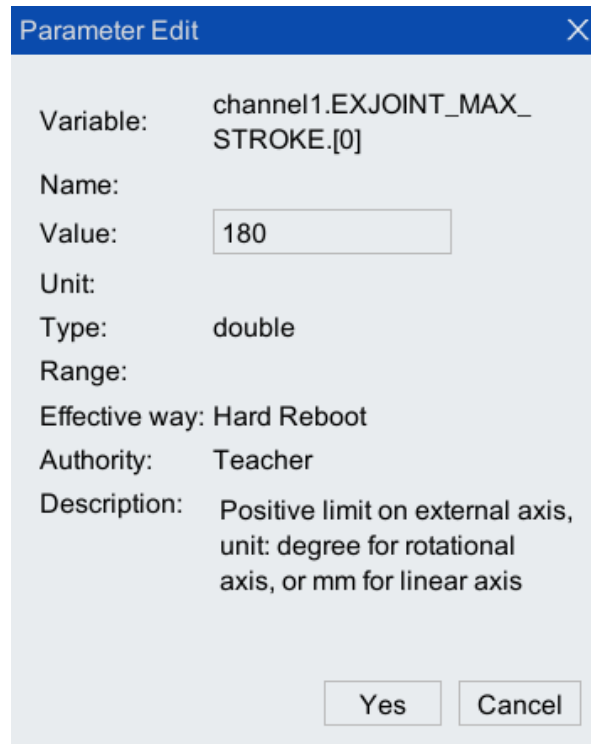

Figure 4-18 External axis positive limit configuration interface
Step 3. The dialog box shown in Figure 4-18 pops up. Configure the parameter in [Value] (this value is the actual positive limit value of the positioner), and click <Yes>.